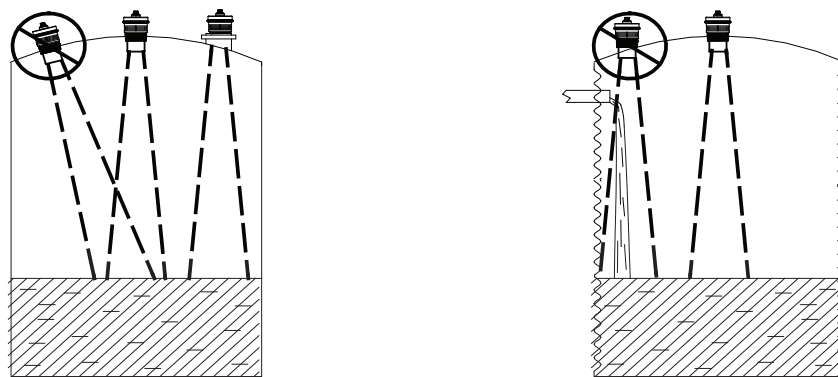

Figure 2.3
- Mount your IRU sensor so that it has a clear, perpendicular sound path to the surface being monitored. Your sensor should be mounted away from tank or vessel walls and inlets. (See Figure 2.3)